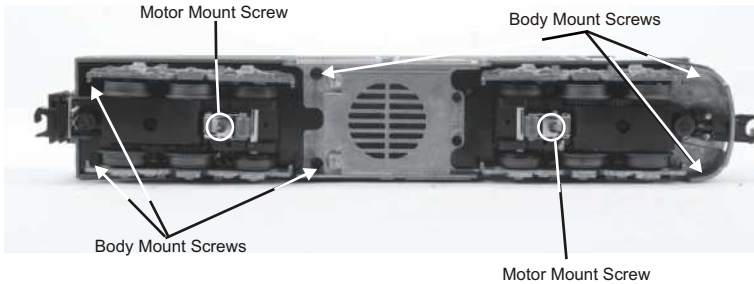

Figure 4. Body Removal Screw Locations
1. To access the gear box, remove the cab from the chassis by unscrewing the body mount screws as seen in Figure 4 and lifting the cab from the chassis.